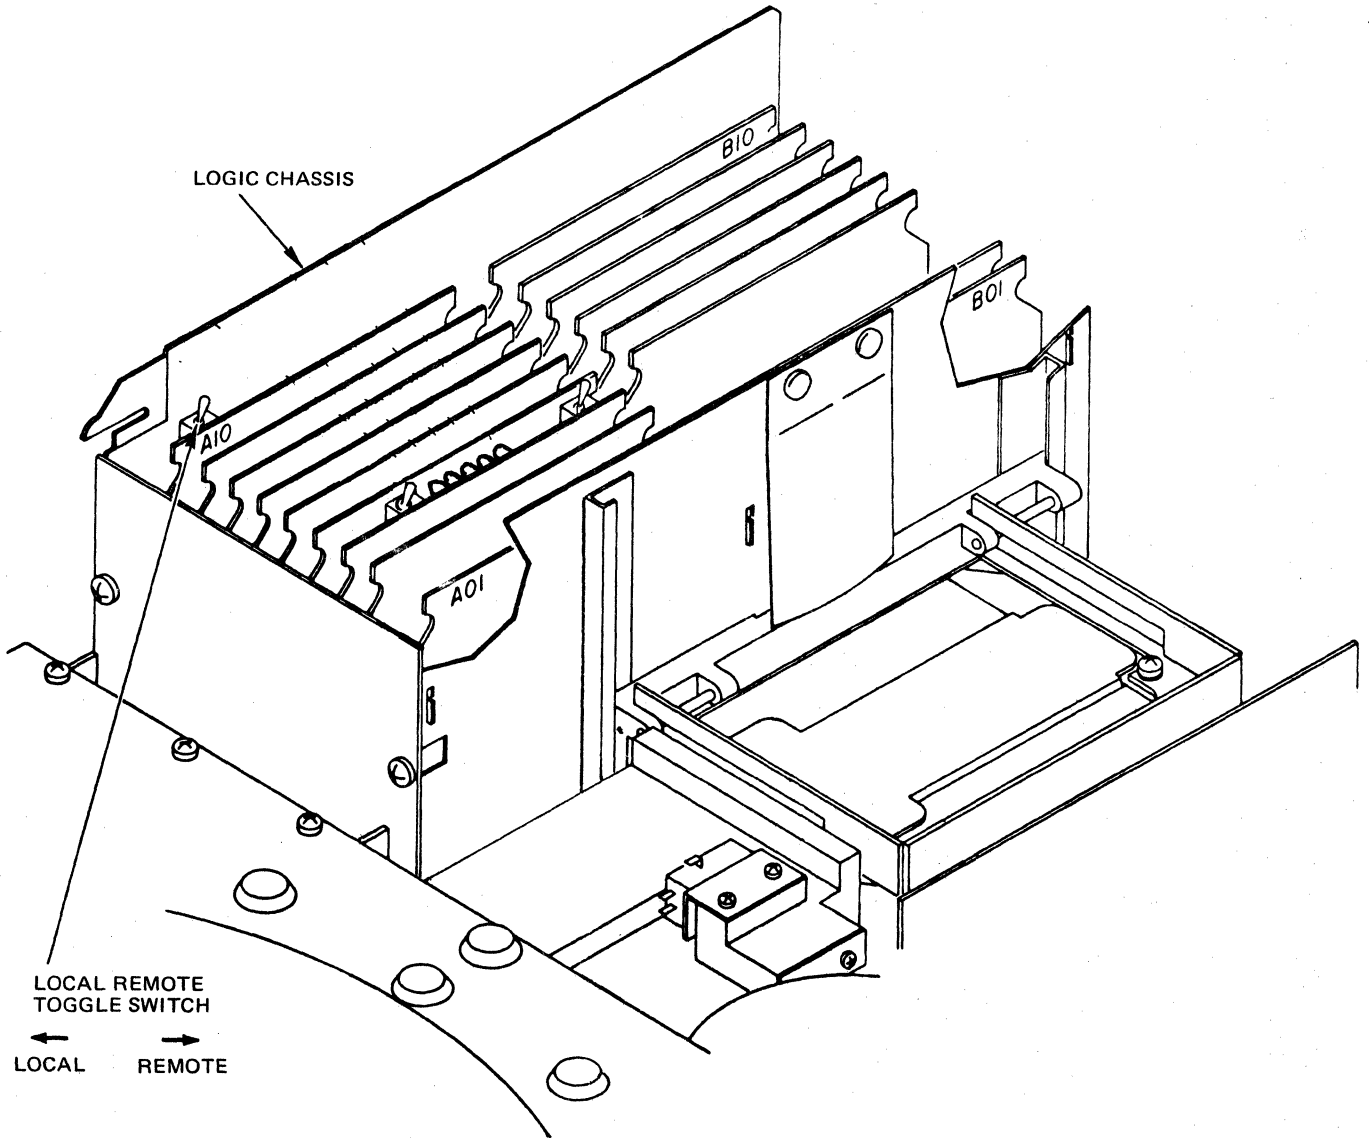

Figure 2-14 Location of LOCAL/REMOTE Toggle Switch
3. Locate logic chassis at rear left-hand side of mass storage unit, as shown in Figure 2-14.